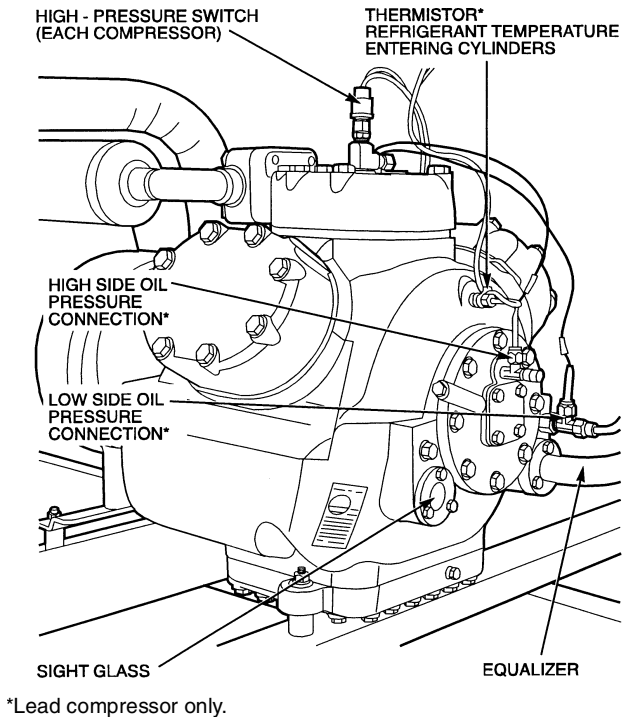

Fig. 32 — Compressor Connections (Lead Compressor Shown)
9. Oil should be visible in the compressor sight glass. See Fig. 32. An acceptable oil level in the compressor is from $\frac{1}{8}$ to $\frac{3}{8}$ of sight glass. Adjust the oil level as required. No oil should be removed unless the crankcase heater has been energized for at least 24 hours. See Check Oil Charge section on page 54 for Carrier-approved oils.